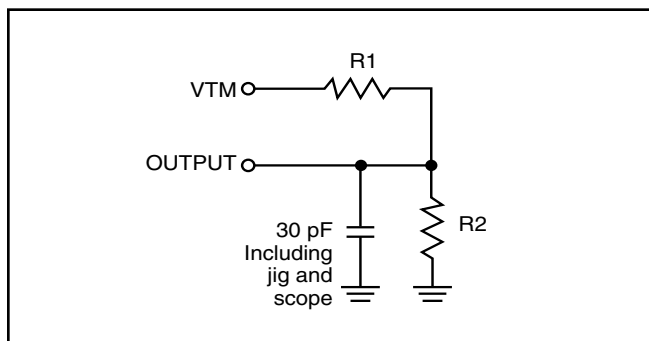

Figure 1
| Output Load | See Figures 1 and 2 | See Figures 1 and 2 |
1. Test conditions assume signal transition times of 5 ns or less, timing reference levels of 0.9V/1.5V, input pulse levels of 0.4 to V_{DD}-0.2V/V_{DD}-0.3V and output loading specified in Figure 1.
1. Test conditions assume signal transition times of 5 ns or less, timing reference levels of 0.9V/1.5V, input pulse levels of 0.4V to V_{DD}-0.2V/V_{DD}-0.3V and output loading specified in Figure 1.